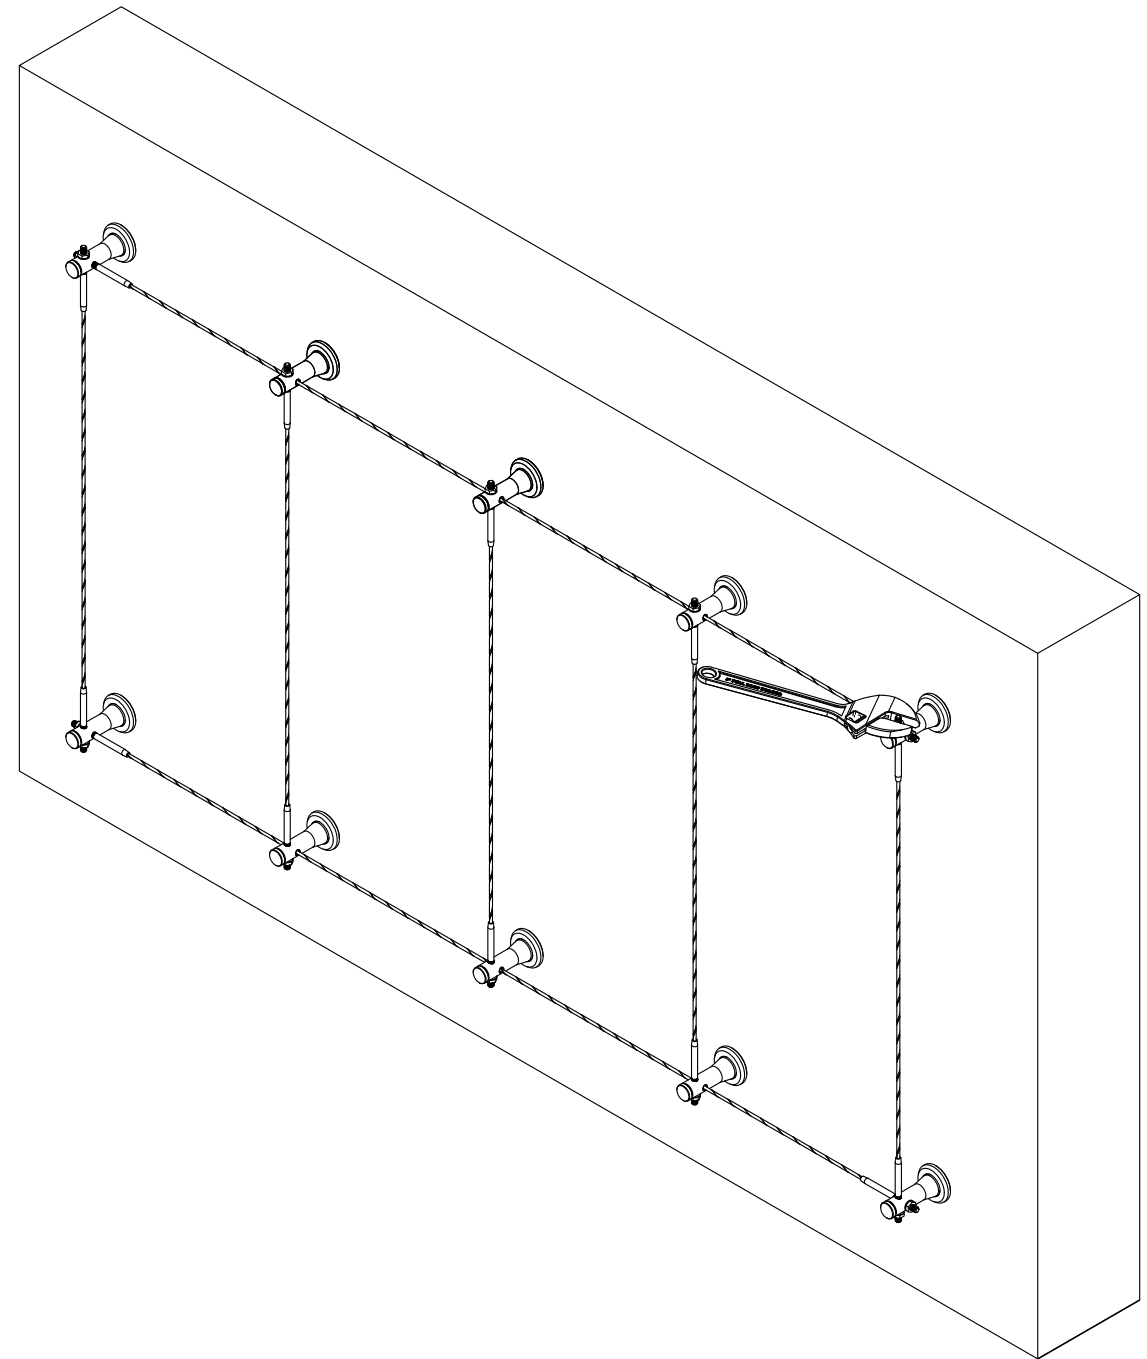

**FIG. 5.**
**BACK ONTO THE STAND OFF. (FIG.5)**